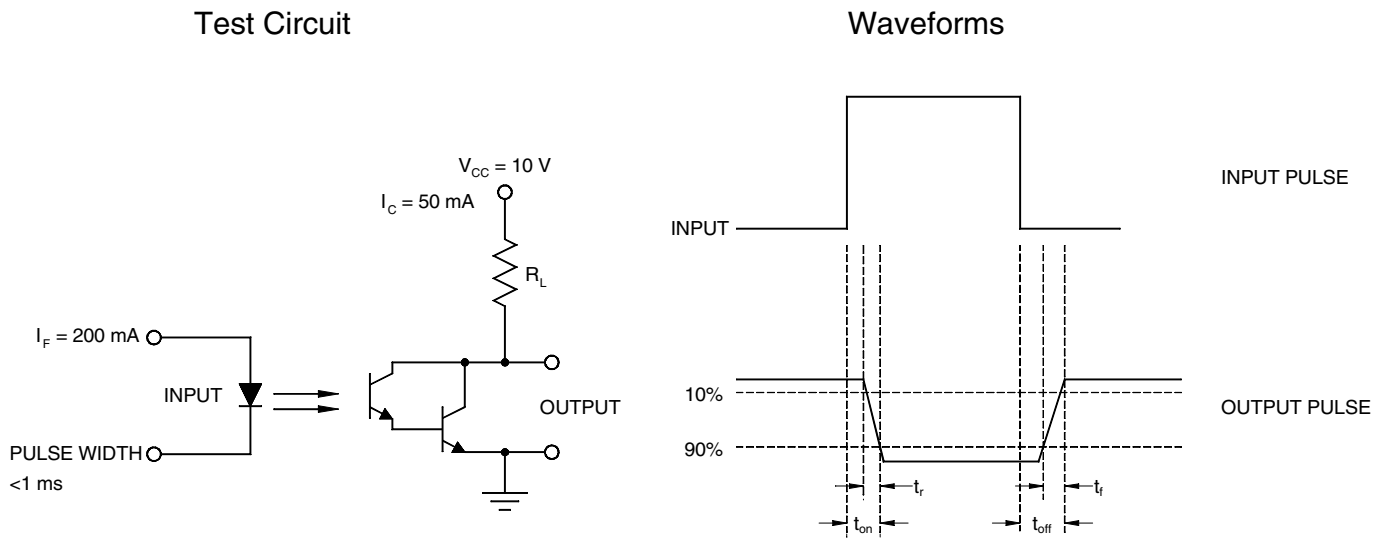

Fig. 7 Switching Time Test Circuit and Waveforms
3. For test circuit setup and waveforms, refer to figure 7..